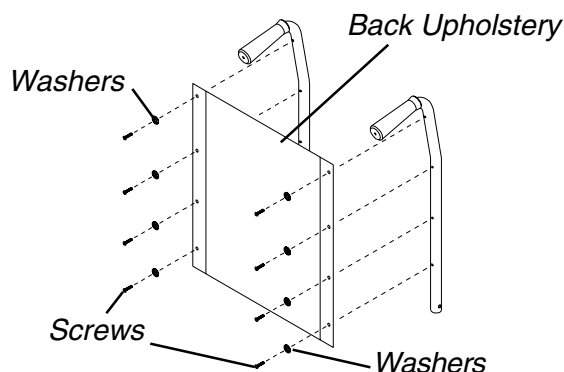

FIGURE 2 - REPLACING BACK UPHOLSTERY
**REPLACING THE BACK UPHOLSTERY (FIGURE 2)**
2. Position new back upholstery on back canes as shown in FIGURE 2.